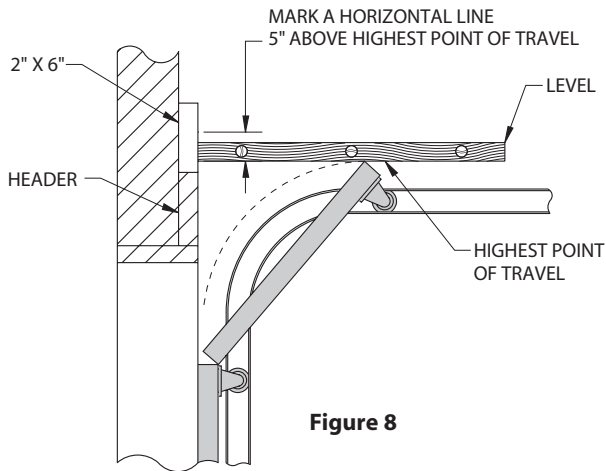

Figure 8
- 5) Use a level, as shown in **Fig. 8** to find the highest point of travel for the door.